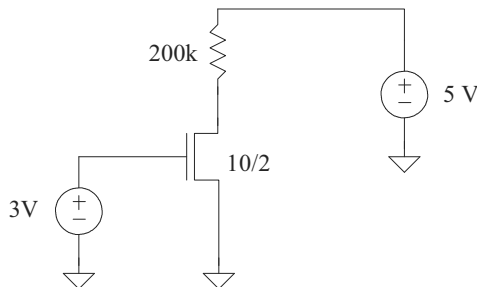
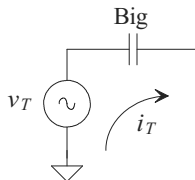

Figure 9.40 Circuit used in Problem 9.5
Figure 9.41 Using a test voltage to determine a resistance in a simulation.
9.6 To determine the value of a small-signal resistance in a simulation, the circuit seen in Fig. 9.41 is used. The ratio of the test voltage, v_T , to the current that flows in the source, i_T , that is, v_T/i_T , is the small signal resistance. Using this circuit determine, with SPICE, the value of the resistance looking into the drain of the circuit in Fig. 9.40. How does the 200k resistor affect i_T in the simulation?